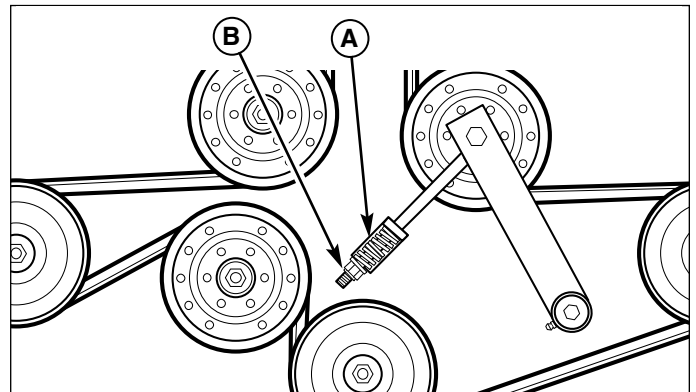

Figure 33. Mower PTO Belt
3. Loosen the spring compression nut (B, Figure 33) to release the belt tension.
6. Install the drive belt on the PTO pulley, the spindle pulleys and idler pulleys. Tighten the spring compression nut (B, Figure 33) until the belt tension spring (A, Figure 33) is 1-5/8" (4,12cm) long.